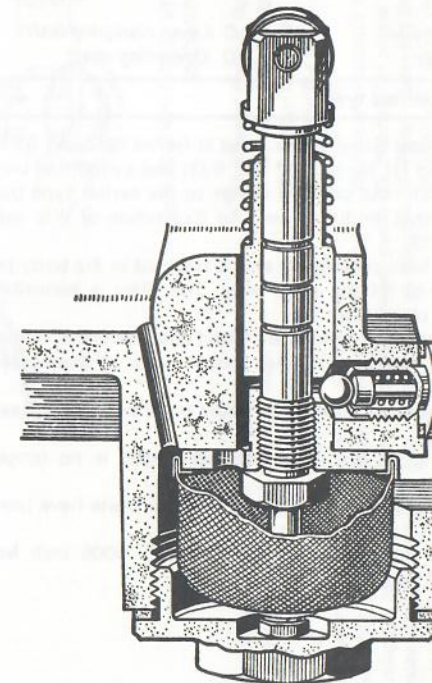

Fig 6.19 CROSS SECTIONAL VIEW THROUGH NON-RETURN VALVE
- 9 Unscrew the valve cap (Fig 6.19) and lift out the spring, plunger and ball.